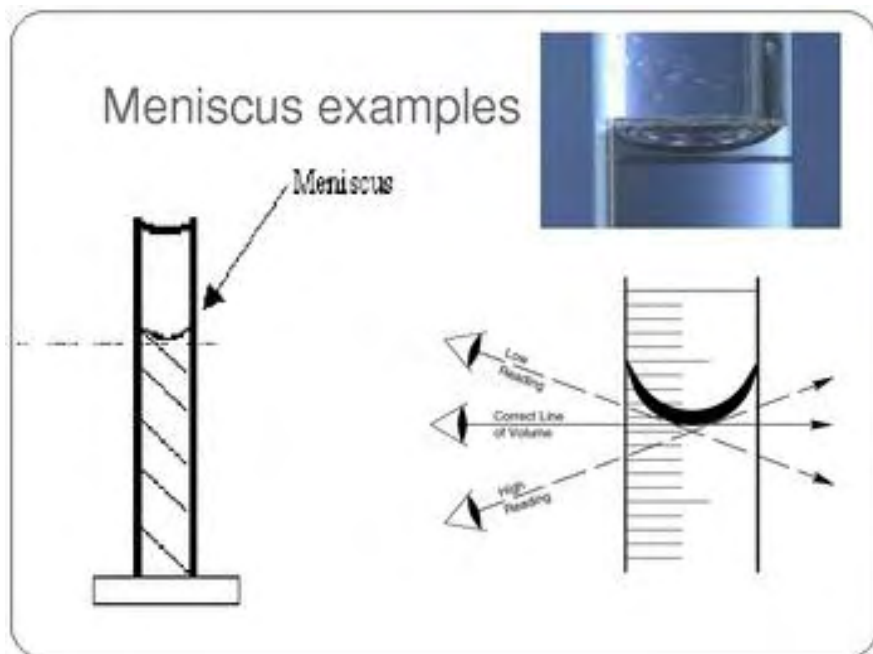

Figure 1-1
3. Use a dropper to add 10.0 ml distilled water to each cylinder. Add the last few drops to each cylinder carefully so that the bottom curve of the meniscus is on the 10.0 ml mark. Figure 1-1 shows you where to position your sight line so that you obtain an accurate reading.